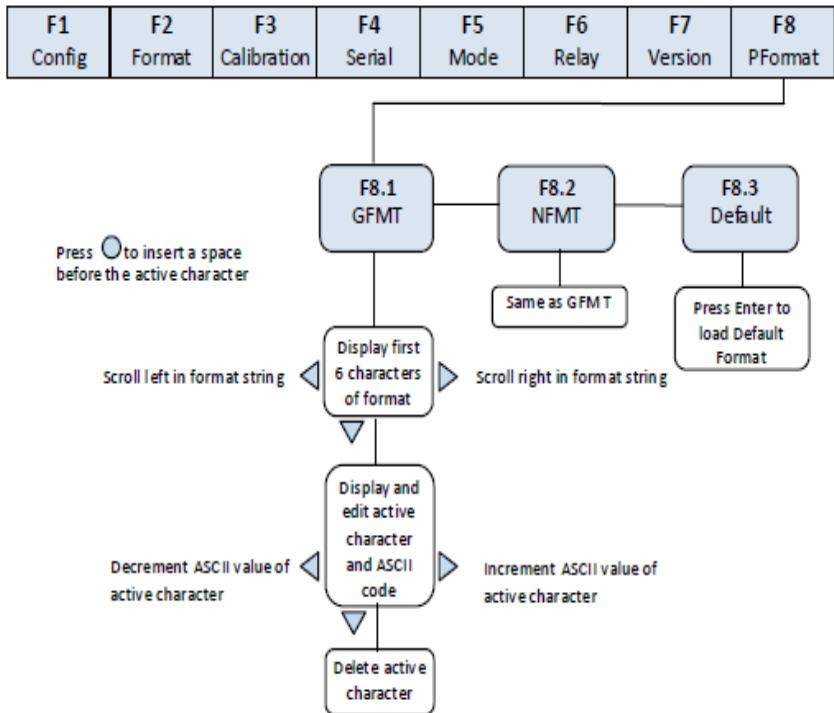

Fig. 13.2.1 Print Format Input Flow Diagram
- (1) Turn on the SW2 switch to set indicator to the Configuration mode (display shows “F1”)
- (2) Press  to show “F8” (see Fig. 13.2.1). Press  to Print Format Menu and display shows “F 8.1”.
- (3) When display shows “F8.1”, press  again and display shows the first 6 digits of GFMT format.
- (4) Use ,  to move the cursor to different flashing digits. When it is at the far right position, press  again, the first digit at the left is removed and another digit prompts up at the right. When it is at the far left position, press , the last digit at the right is removed and another digit prompts up at the left. Press  to add a space to the left of the flashing digit.
- (5) When the cursor is at a certain digit position, press  to edit. Display shows the characters as shown in Appendix 15.5. “_.” is shown for characters not available in Appendix 15.5.
- (6) While editing, use ,  to move between characters. To delete a character from the string press . Once deleted the indicator will return to F8.1.
- (7) When character editing is completed, press  to return to (4) above and to perform editing other characters. When finish editing, press  to return to F8.1 and display shows “F8.1”.
- (8) Press  to go to F8.2 Menu and display shows “F8.2”. Refer to (3) to (7) for format editing of NFMT.
- (9) After finishing, turn off the SW2 switch to exit from Calibration mode and enter into Weighing Mode.
- (1) Turn on the SW2 switch to set indicator to the Configuration mode and display shows “F1”.
- (2) Press  until display shows “F8” (see Fig. 13.2.1). Press  to go to Print output menu and display shows “F8.1”.
- (3) When display shows “F8.1”, press  twice and display shows “F8.3”.
- (4) When display shows “F8.3”, press  to show “Set?”. There are 2 options then:
- (5) Turn off the SW2 switch to exit from Calibration mode and enter into Weighing Mode.
- (1) Turn on the SW2 switch to set indicator to the Configuration mode. Display shows "F1".
- (2) Press  until display shows "F7" (see Fig. 13.2.1). Press  to go to F7.1 Menu. Display shows "F7.1"